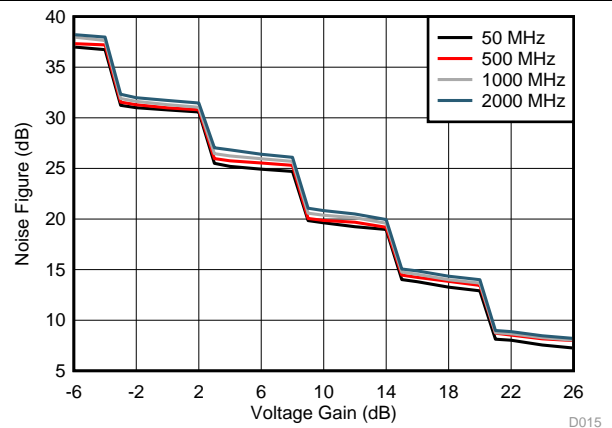

Figure 26. Noise Figure vs Gain Settings
The LMH6401 is best suited to optimize system linearity and noise performance over the entire gain range in the RF and IF bands. Operating on a nominal 5-V supply or  $\pm 2.5$ -V split supplies, the device consists of an attenuator stage followed by a fixed-gain amplifier to provide voltage gain control from  $-6$  dB to 26 dB in 1-dB steps (as shown in the *Functional Block Diagram* section) with an overall 32-dB gain range. The variable gain control for the device is offered through the digital serial peripheral interface (SPI) register. The device has a unique attenuator ladder architecture providing dynamic range improvements where the overall noise figure (NF) remains relatively constant for the first 5-dB attenuator steps, with NF degrading proportional to the attenuator steps on the sixth step. This behavior repeats over the entire gain range; see Figure 26.